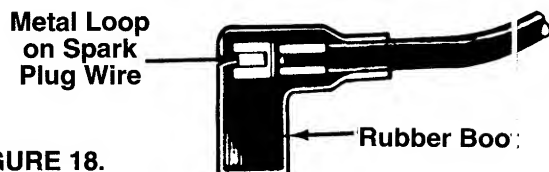

FIGURE 18.
1. Attach spark plug wire to spark plug. If unit is equipped with a rubber boot over the end of the spark plug wire, make certain the metal loop on the end of the spark plug wire (inside the rubber boot) is fastened securely over the metal tip on the spark plug. See figure 18.